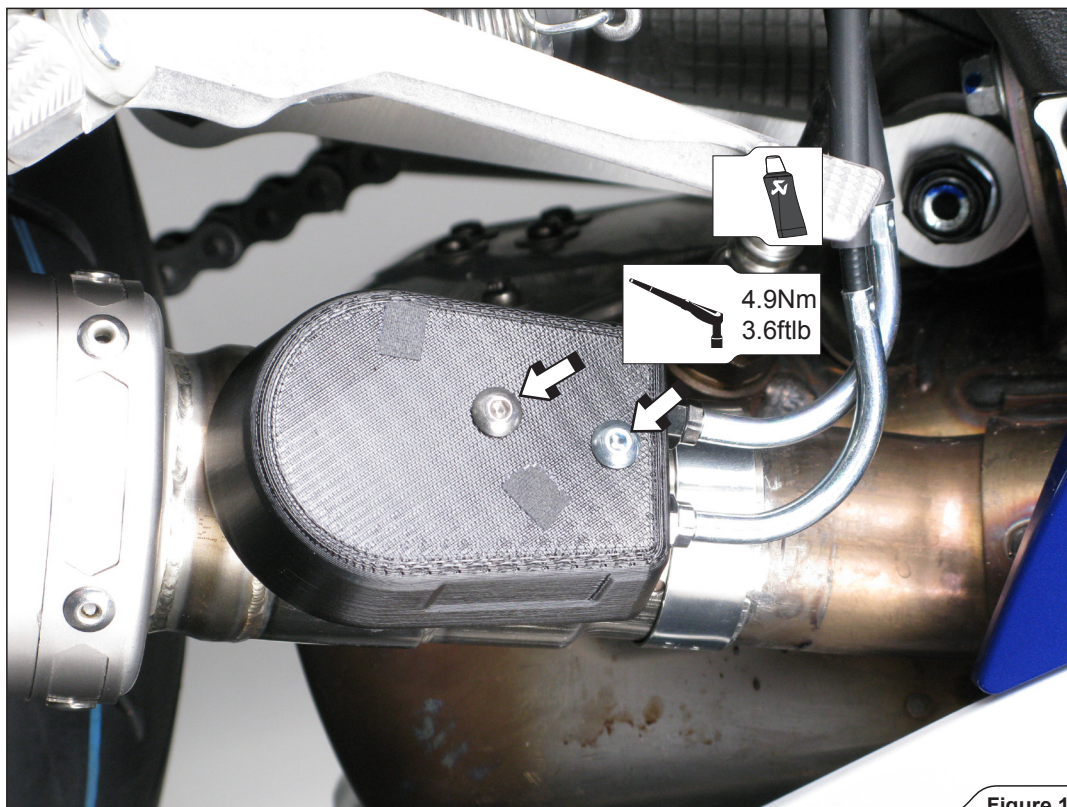

Figure 13
5. Assemble the carbon-fiber shield onto the exhaust valve, using Akrapovič M5 bolts and heat resistant washers (Figure 13).